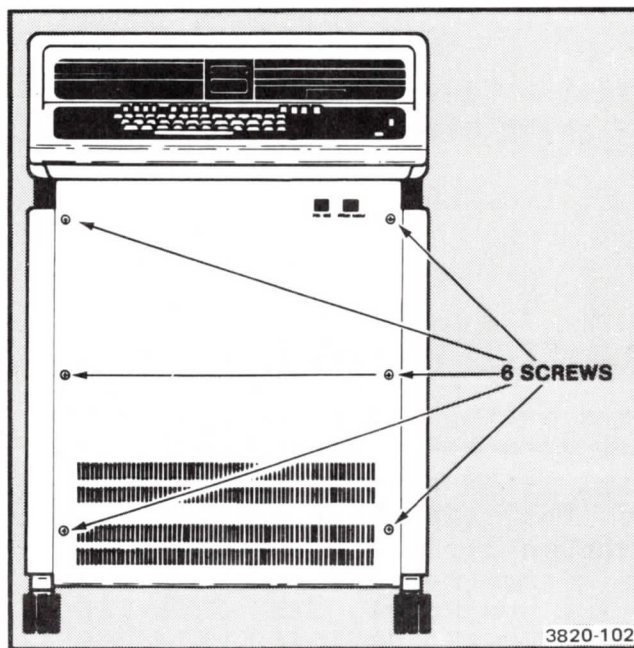

Figure 10-1. Pedestal Front Cover Screw Locations.
1. Remove the cover from the front of the pedestal. This is done by loosening the six screws shown in Figure 10-1 and gently pulling forward on the cover. There are two press-fit fasteners at the top of the front panel.